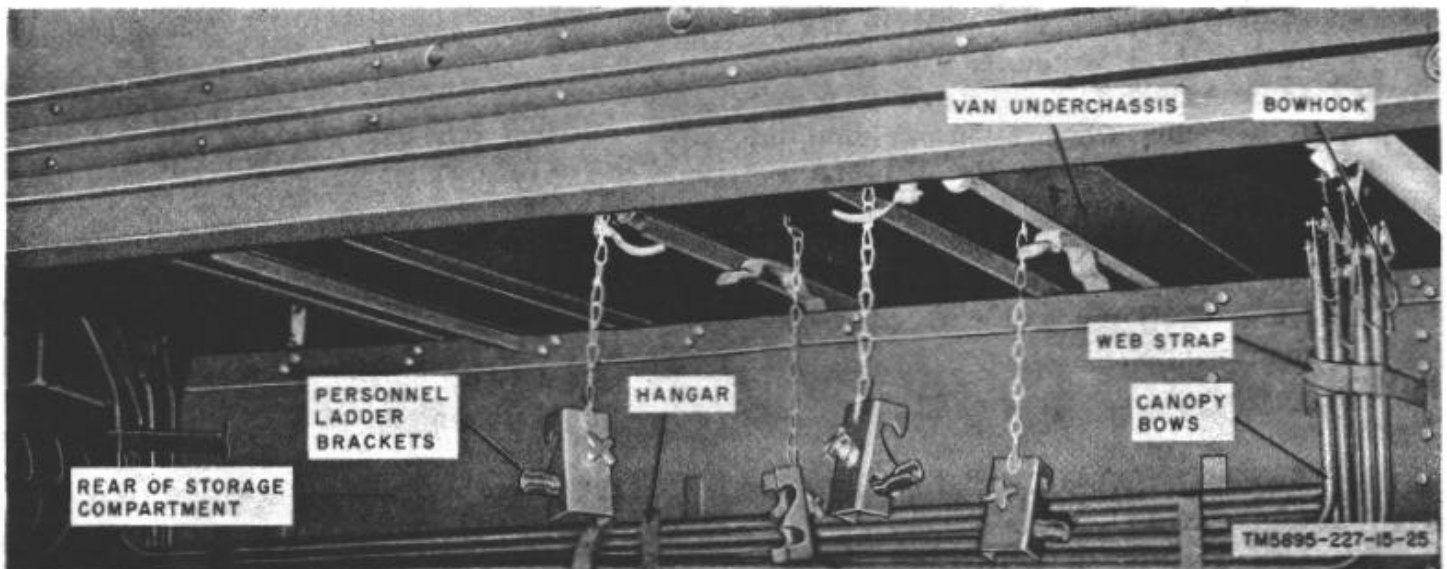

Figure 25. Storage of canopy bows.
a. Remove the tarpaulin and two lashing ropes from the storage compartment (fig. 7) and remove the canopy bows (fig. 25).
bowhook (fig. 25).